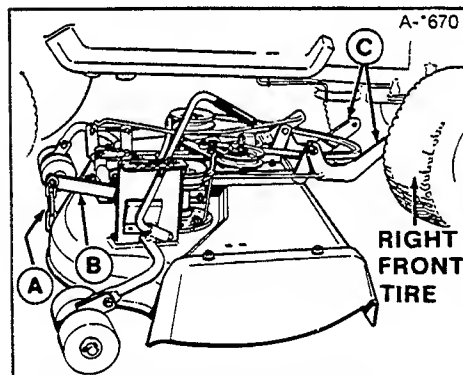
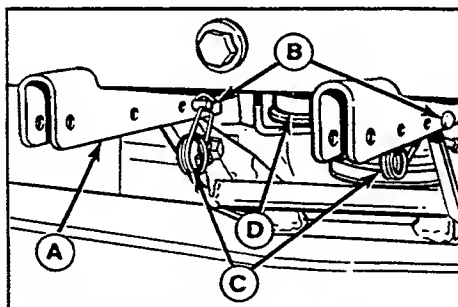
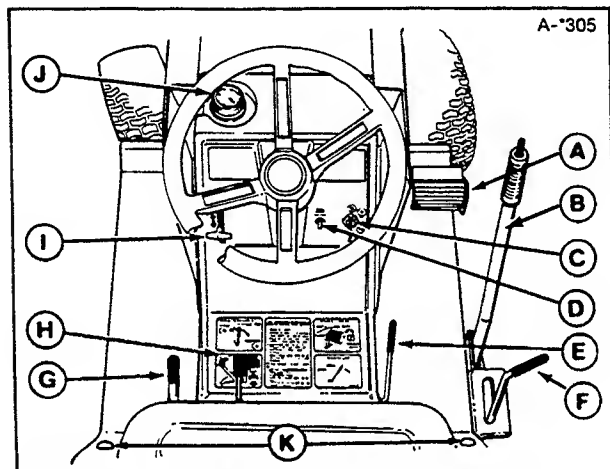

Figure 1. Installing 36" Mower
Figure 2. Mower Hitch Attached
Figure 8. Tractor & Mower Controls
The lift chain (A, figure 1) should be connected to the rear hole in lift arm (B) unless optional large lift lever (B, figure 8) is used to raise mower. With large lift lever, connect chain in forward hole.
2. Turn the tractor front wheels full left (figure 1).
aligning arms (C, figure 1) with tractor hitch (A, figure 2).